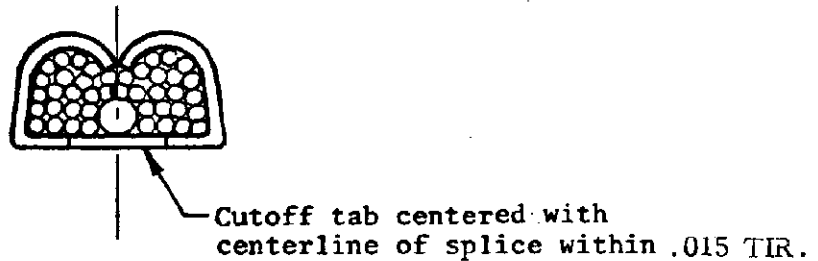

Figure 2
- (1) Front cutoff tab shall not exceed .015.
- (2) Rear cutoff tab shall not exceed .020.
- (3) Cutoff tab shall be centered within the limits shown in Figure 2.